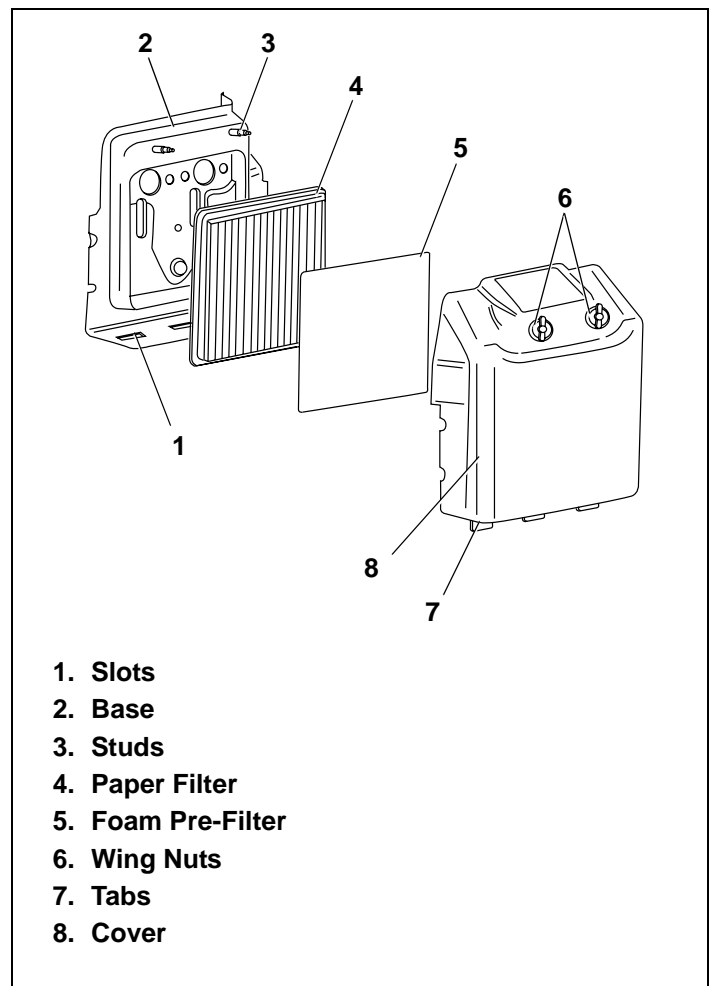

Figure 17. Air Cleaner Components
*Before removing air cleaner cover, see "I. Servicing Foam Pre-Filter" instructions on page 10 and/or "II. Servicing Paper Filters" instructions on page 11. Special care should be taken to prevent damage when removing air cleaner cover. See Figure 17 on page 10. Afterward, continue reading instructions below.*
1. Remove air cleaner cover and filters. See Figure 17 on page 10.
1. Remove wing nuts from air cleaner cover. See Figure 17 on page 10. Afterward, continue reading instructions below.